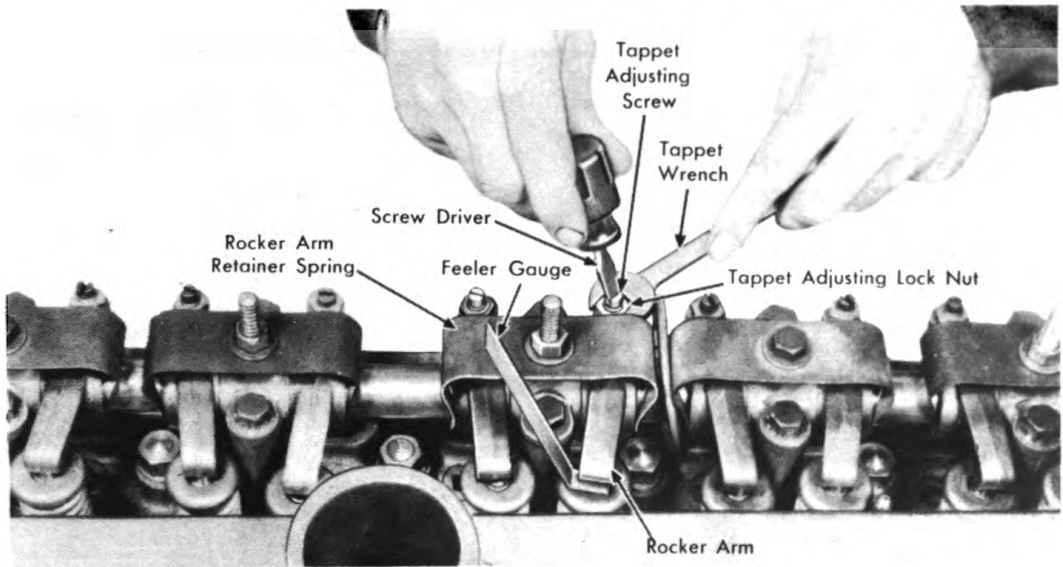

Figure 23. Adjusting the Valve Tappets for Correct Clearances
1. Check the valve tappets with a feeler gauge of the right thicknesses. It is necessary to remove the rocker arm cover. The recommended clearances between the rocker arm and the valve stem for a hot engine are as follows: For the intake valve, .009"; for the exhaust valve, .012", See Figure 23.